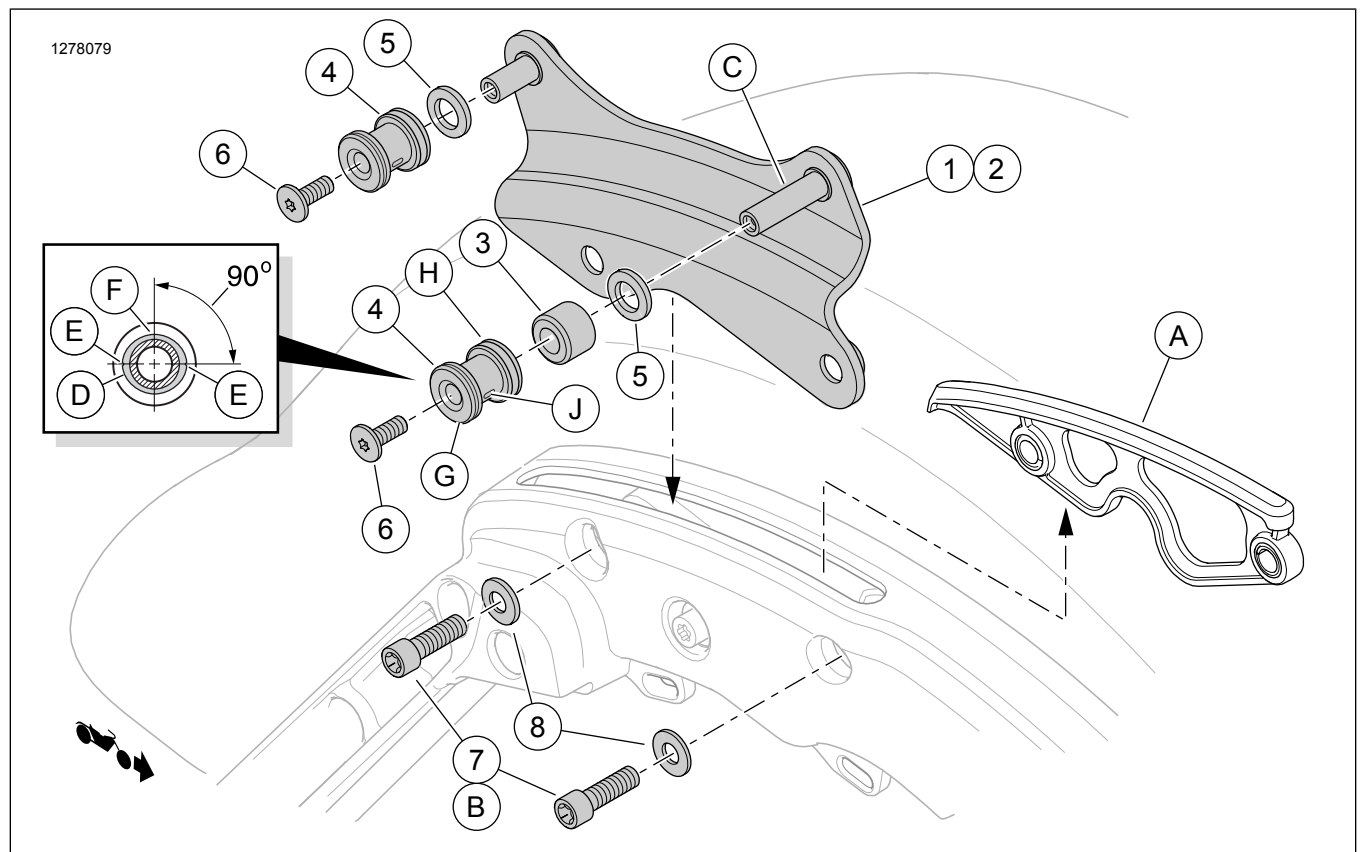
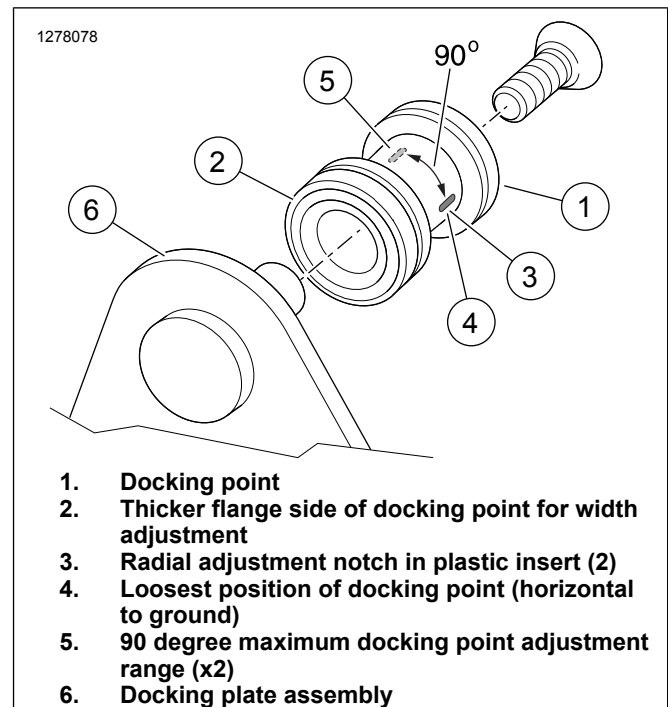

Figure 1. Kit Contents: Adjustable Four-Point Detachable Docking Hardware Kit
Figure 2. Docking Point Installation
3. See Figure 1. Remove two screws (B) from saddlebag support on each side.
4. Lift slot cover inserts (A) from locations.
See Figure 1. Do not install width adjustment spacers (5) at this time.
- a. Slide a spacer (3) onto long pin (C) of each docking plate.
- b. Slide a docking point (4), **thicker** flange (H) first, onto each docking plate pin.
- c. Install screws (6) into docking plate pins.
- d. See Figure 2. Rotate each docking point to position notches horizontally (4).
See Figure 2.
- b. See Figure 1. Remove screw (6) and docking point (4) from all four docking plate pins.
- d. Apply 2 or 3 drops of threadlocker to the threads of each screw (6). Install screws.
- e. See Figure 2. Rotate each docking point to position notches horizontally (4). Tighten screws until snug.
- a. See Figure 1. Remove all components from all four docking plate pins.
- b. Install width adjustment spacers (5) to each docking point.
- c. Install spacer (3) onto longer pin (C) of each docking plate.
- e. Apply 2 or 3 drops of threadlocker to the threads of each screw (6). Install screws.
- f. See Figure 2. Rotate each docking point to position notches horizontally (4). Tighten screws until snug.
- a. Loosen screws (6).
- b. See Figure 2. Rotate docking points (1) slightly away from horizontal (4).
- d. Continue to rotate slightly toward vertical (5) away from horizontal (4) until a tight fit is achieved at each location.
5. See Figure 1. Secure docking plate pin screws (6). Tighten.